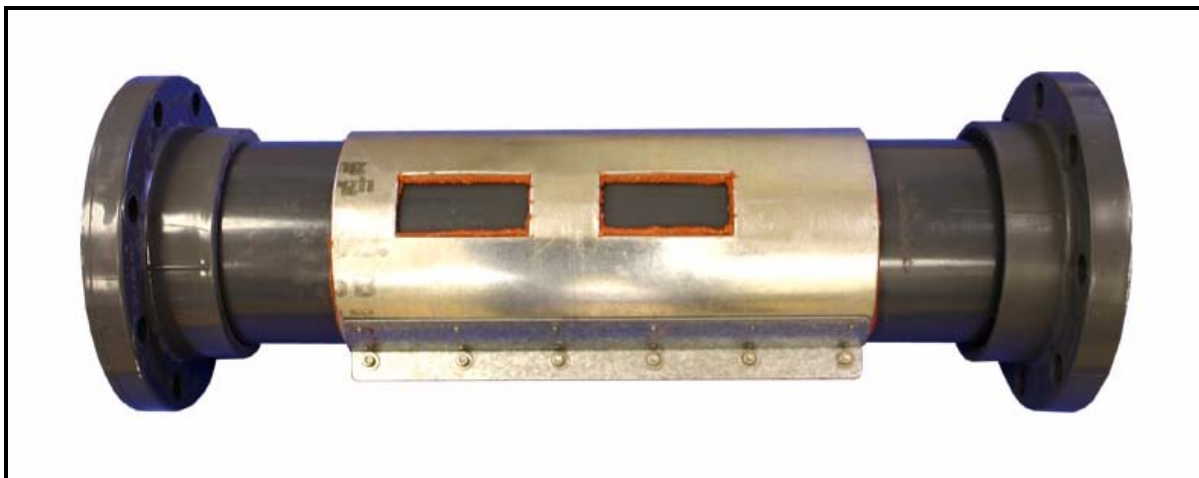

Figure 2-12: Pipe Damping Jacket Installed
3. Install the jacket on the pipe as shown in Figure 2-12 below. Align the cutouts with the previously marked transducer locations. Then tighten the clamping screws until some fluid drips from the bottom of the jacket.